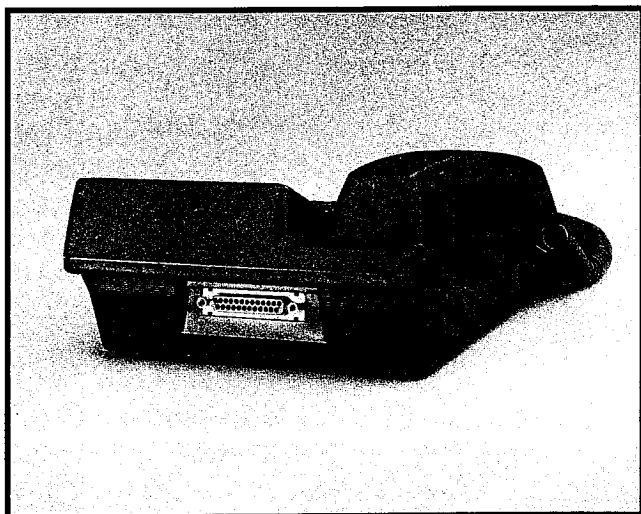

FIGURE 5—INTEGRATED DATA INTERFACE UNIT (PDIU-DI)
- **Simultaneous Voice and Data:** Digital telephones may be upgraded with an integrated data interface unit (PDIU-DI) to receive and transmit simultaneous voice and data; data and voice calls can be made independently of each other. The PDIU-DI (Figure 5) is easily installed, replacing the usual digital telephone base. Asynchronous data devices, such as personal computers and terminals, can be connected to the standard RS-232 connector of the PDIU-DI. Station users are able to transmit and receive RS-232 data over the PDIU-DI-equipped digital telephone's single twisted wire pair. 2B+D technology enables the digital telephone and the PDIU-DI to share the same wire pair and station port (see Table D).